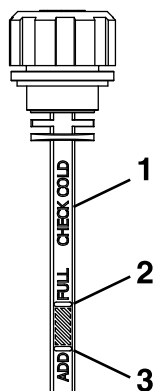

Figure 3
4. Remove the cap again and check the level of the oil on the dipstick. See Figure 3 for oil levels.